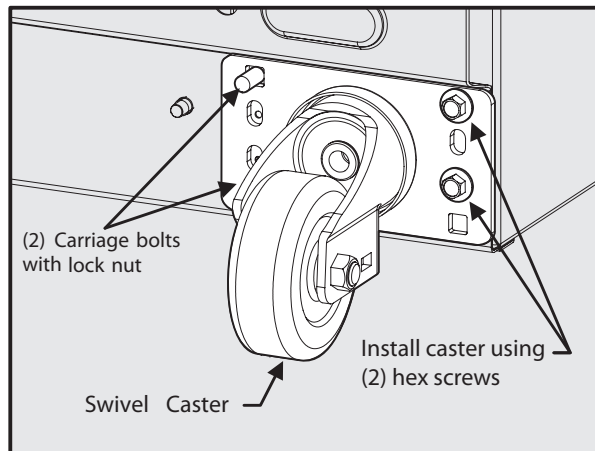

Figure 5
3. On the opposite side of the swivel caster plate, insert two carriage bolts through the compressor support rail and swivel caster plate. Use a lock nut on each bolt and tighten securely using a 9/16" socket wrench. See Figure 5.